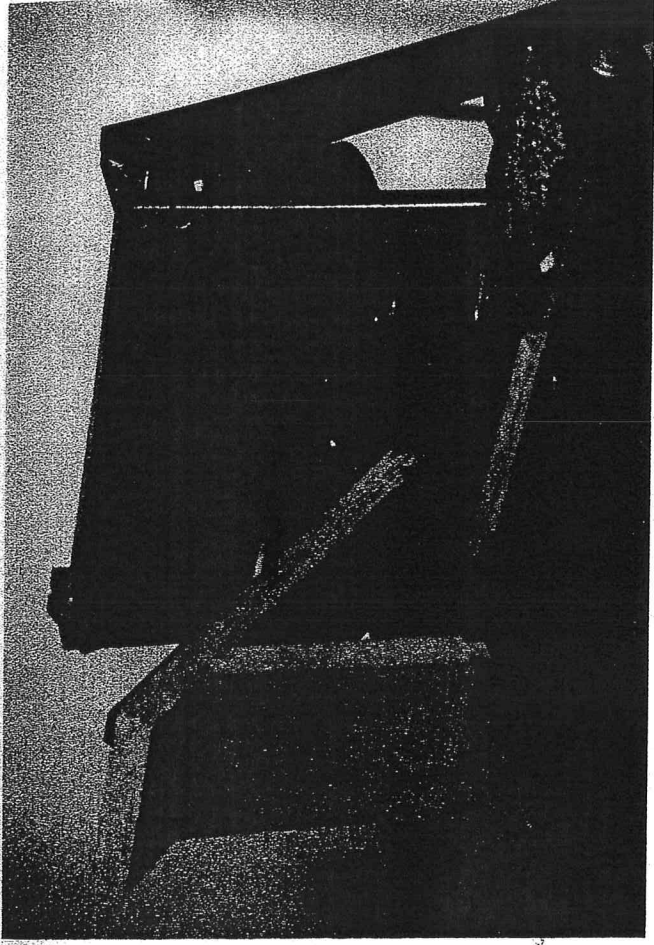

Fig. 23
9. Raise the table 13 turns. Make another cut on both ends of brace, finishing the pin. (fig. 23)